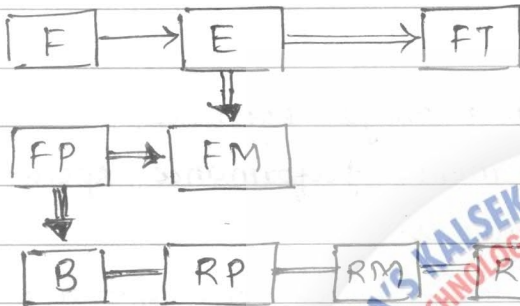

fig 5c Mode 3, vehicle propel & Battery charging
- Mode 3: During normal driving (fig 5c) the ICE delivers power to propel the front wheel and to drive the first EM as a generator to charge the battery.